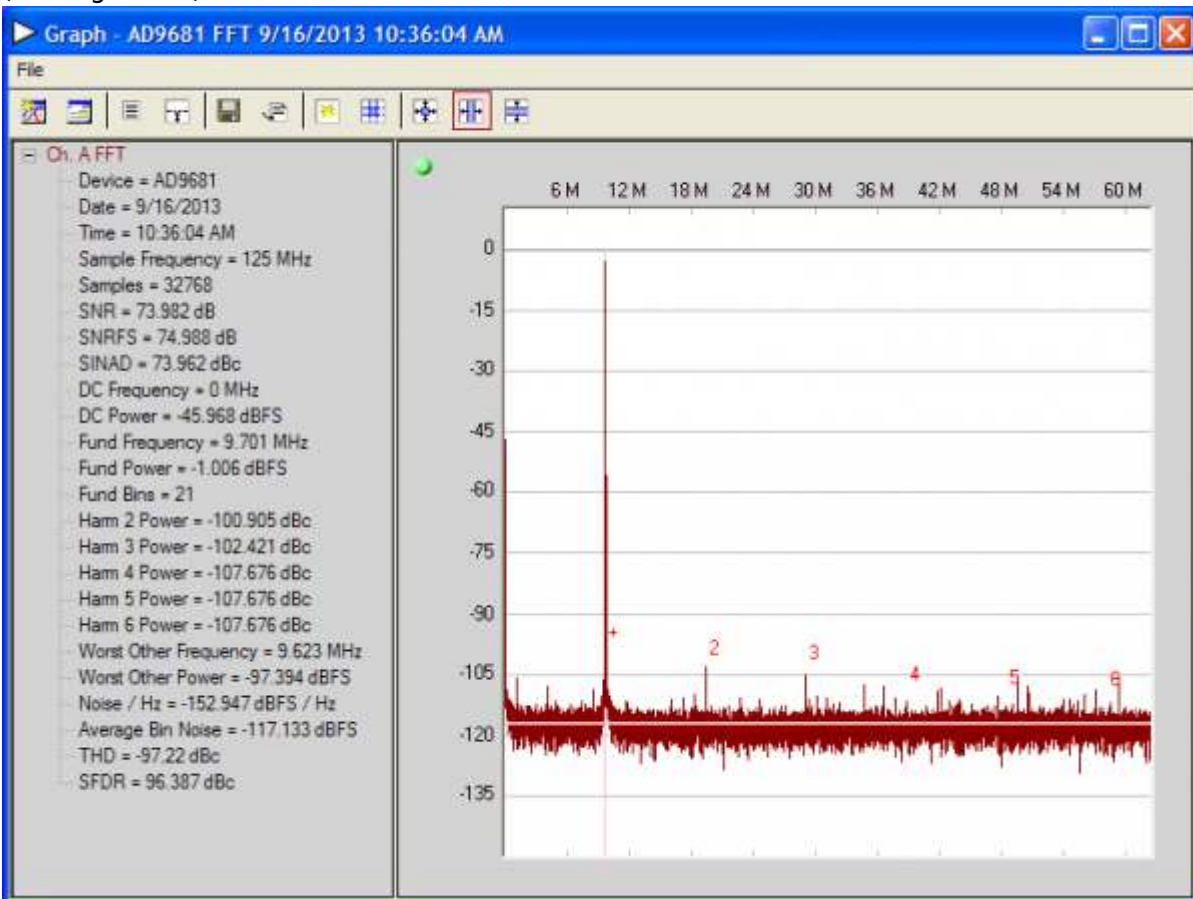

Figure 13.
1. Adjust the amplitude of the input signal so that the fundamental is at the desired level. Examine the **Fund Power** reading in the left panel of the **VisualAnalog Graph - AD9681 FFT** window (see Figure 13).